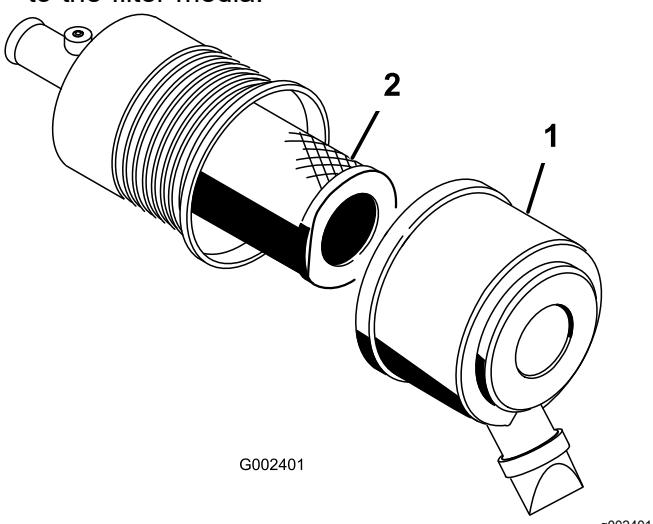

Figure 55
1. Release the latches securing the air-cleaner cover to the air-cleaner body (Figure 55).
2. Remove the cover from the air-cleaner body (Figure 55).
4. Remove and replace the filter (Figure 55).